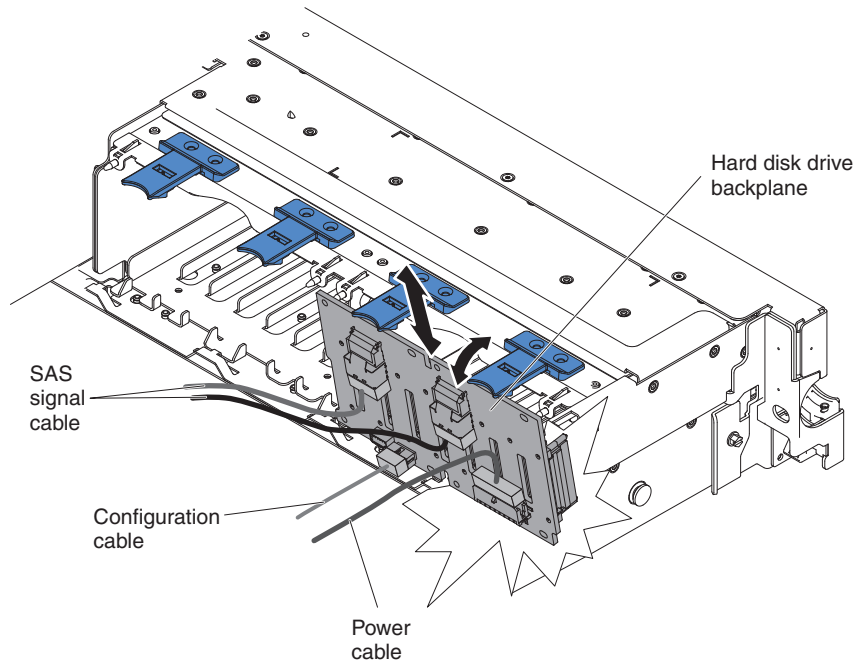

Figure 135. The 2145-DH8 disk drive backplane
6. Lift the two front tabs and rotate the backplane assembly/backplane toward the rear of the server to remove the backplane assembly/backplane, as shown in Figure 135 on page 161.